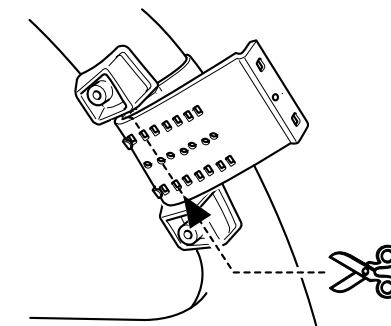

Fig. 16
2. Cut the extra portion of the belt at the center of the inner holder. (Fig. 16)